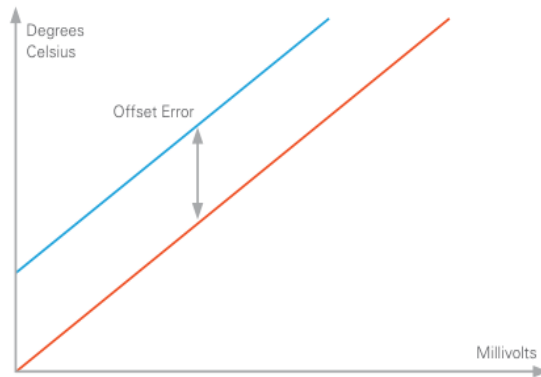

Fig.61 Autozero compensates for offset error.
c. Removing Offset Error (Fig.61)